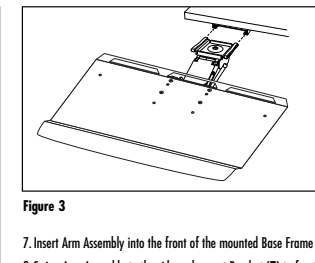

Figure 3
7. Insert Arm Assembly into the front of the mounted Base Frame (Figure 3).
7. Installez la base de support sur le dessus de la plate-forme. (Figure 3)